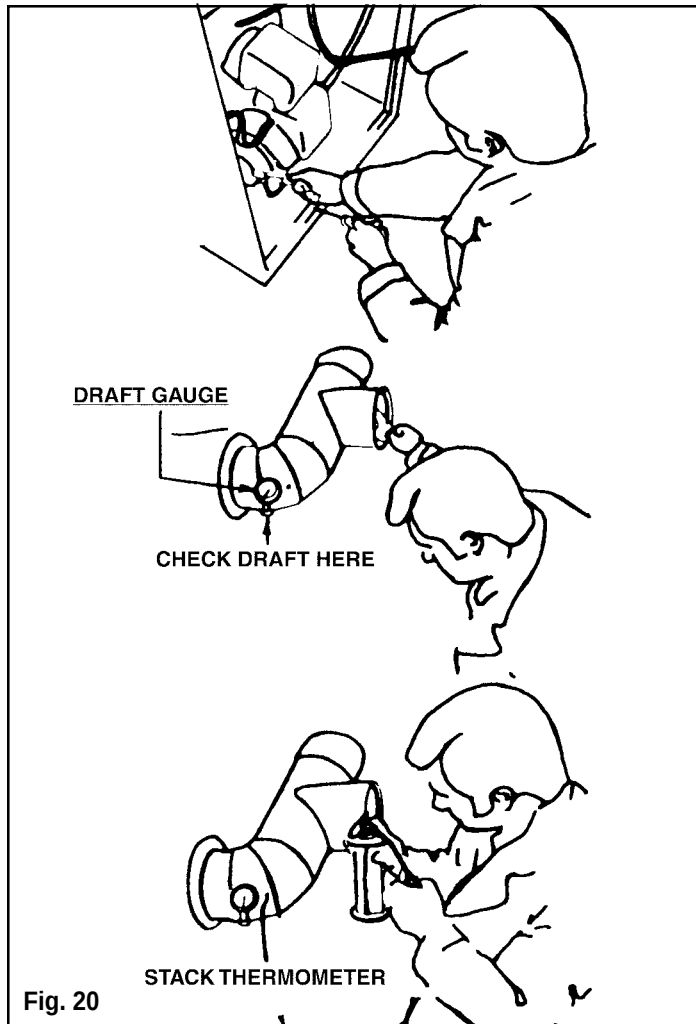

Fig. 20
Insert a stack thermometer in one of the holes and leave it there continually during the test so that you can refer to it at any time. (See Fig. 20.)
Step 2. For your initial set of readings, set the Draft Regulator so that there is .03 Water Column Draft in the smoke pipe between the flue outlet and draft regulator. (See Fig. 20.)